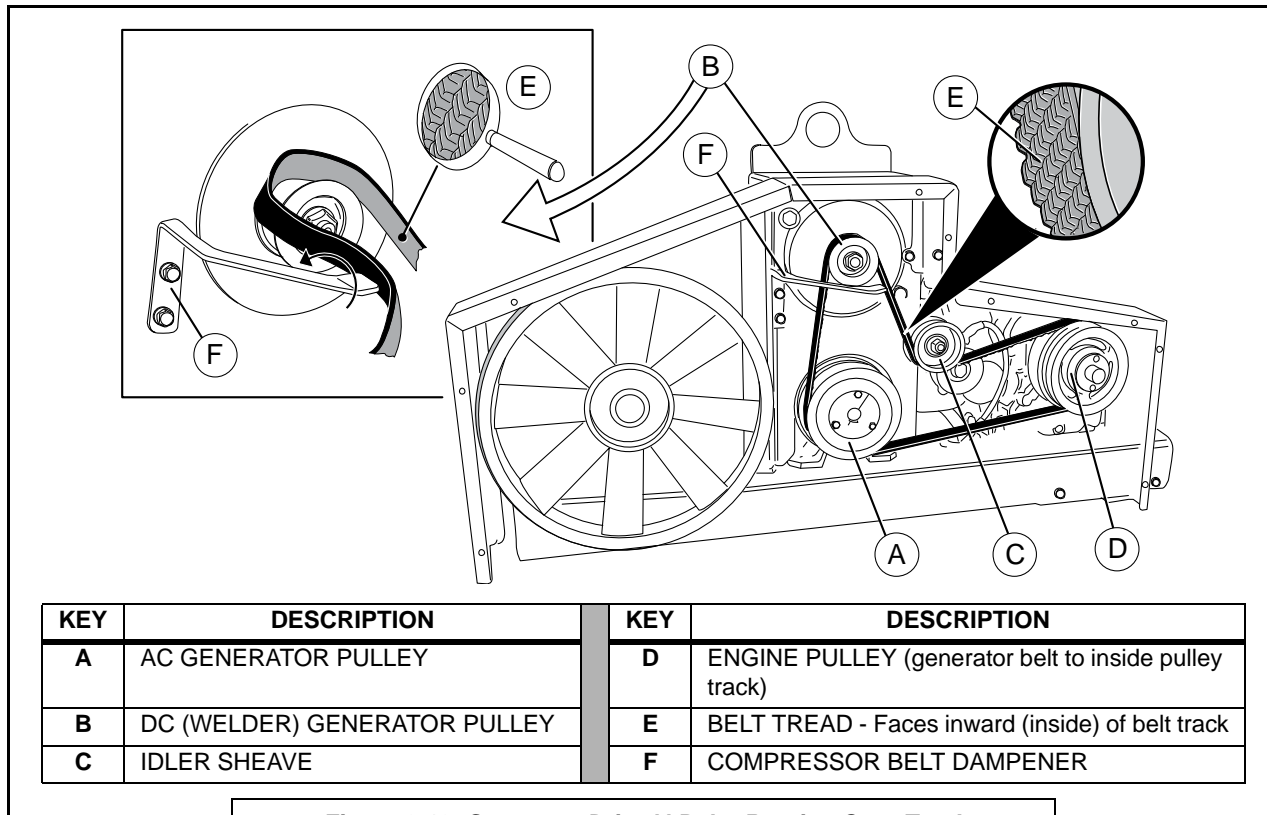

Figure 6-18: Generator Drive V-Belt - Routing Onto Track
3. Run a new serpentine belt into place about the generator, engine and idler pulleys as shown in **Figure 6-18**. Keep in mind when routing the belt that:
- Begin the belt routing by first wedging the belt between the compressor belt dampener [F] and the DC pulley, as shown in the inset view of **Figure 6-18**. Once the belt is beyond the dampener, it can be placed over the DC pulley, and then continued from there.